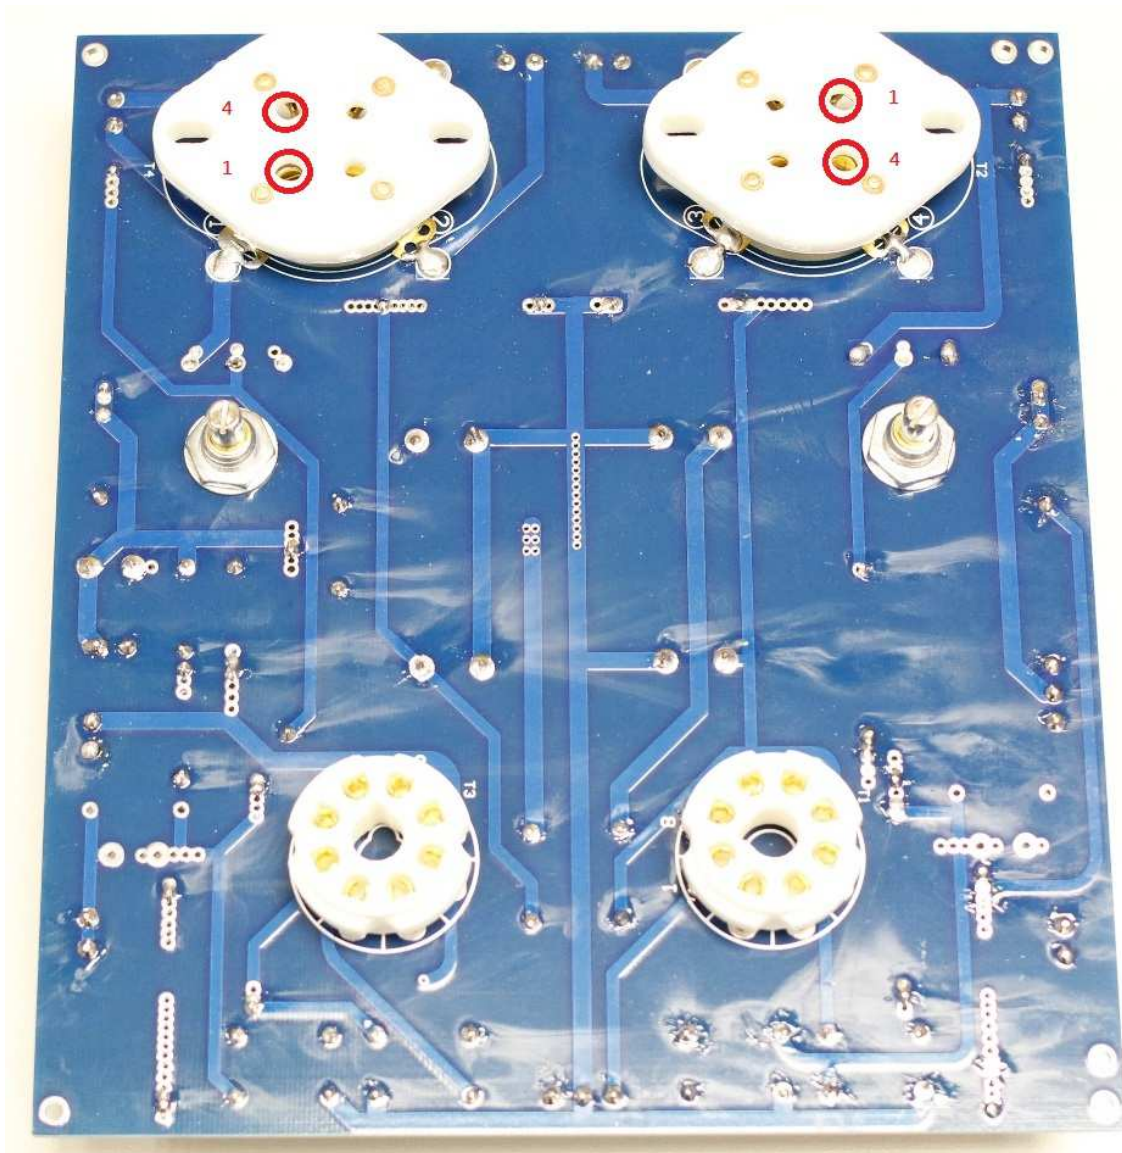

Figure 2: Direction of 4-Pin tube sockets for 300B and 8-Pin octal tubes sockets for 6SN7
3. Solder the tube sockets. The bigger holes of the 4-Pin plate sockets correspond to the PIN1 and PIN4 of 300B (tube filament voltage). The direction of the 8-Pin octal tube sockets for 6SN7 match with the screen silk of the board as in Figure 2.